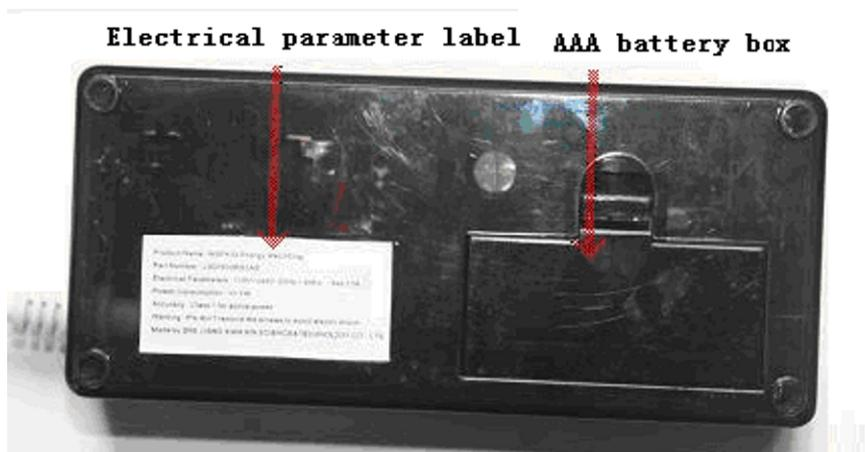

Figure 3. MSP430 Energy Watchdog Tool (Bottom View)
Put two (2) AAA batteries in the battery box on the bottom of the Energy Watchdog (refer to Figure 3) to supply power to externally connected RF modules. These batteries are required only if external RF modules are connected to the Energy Watchdog.